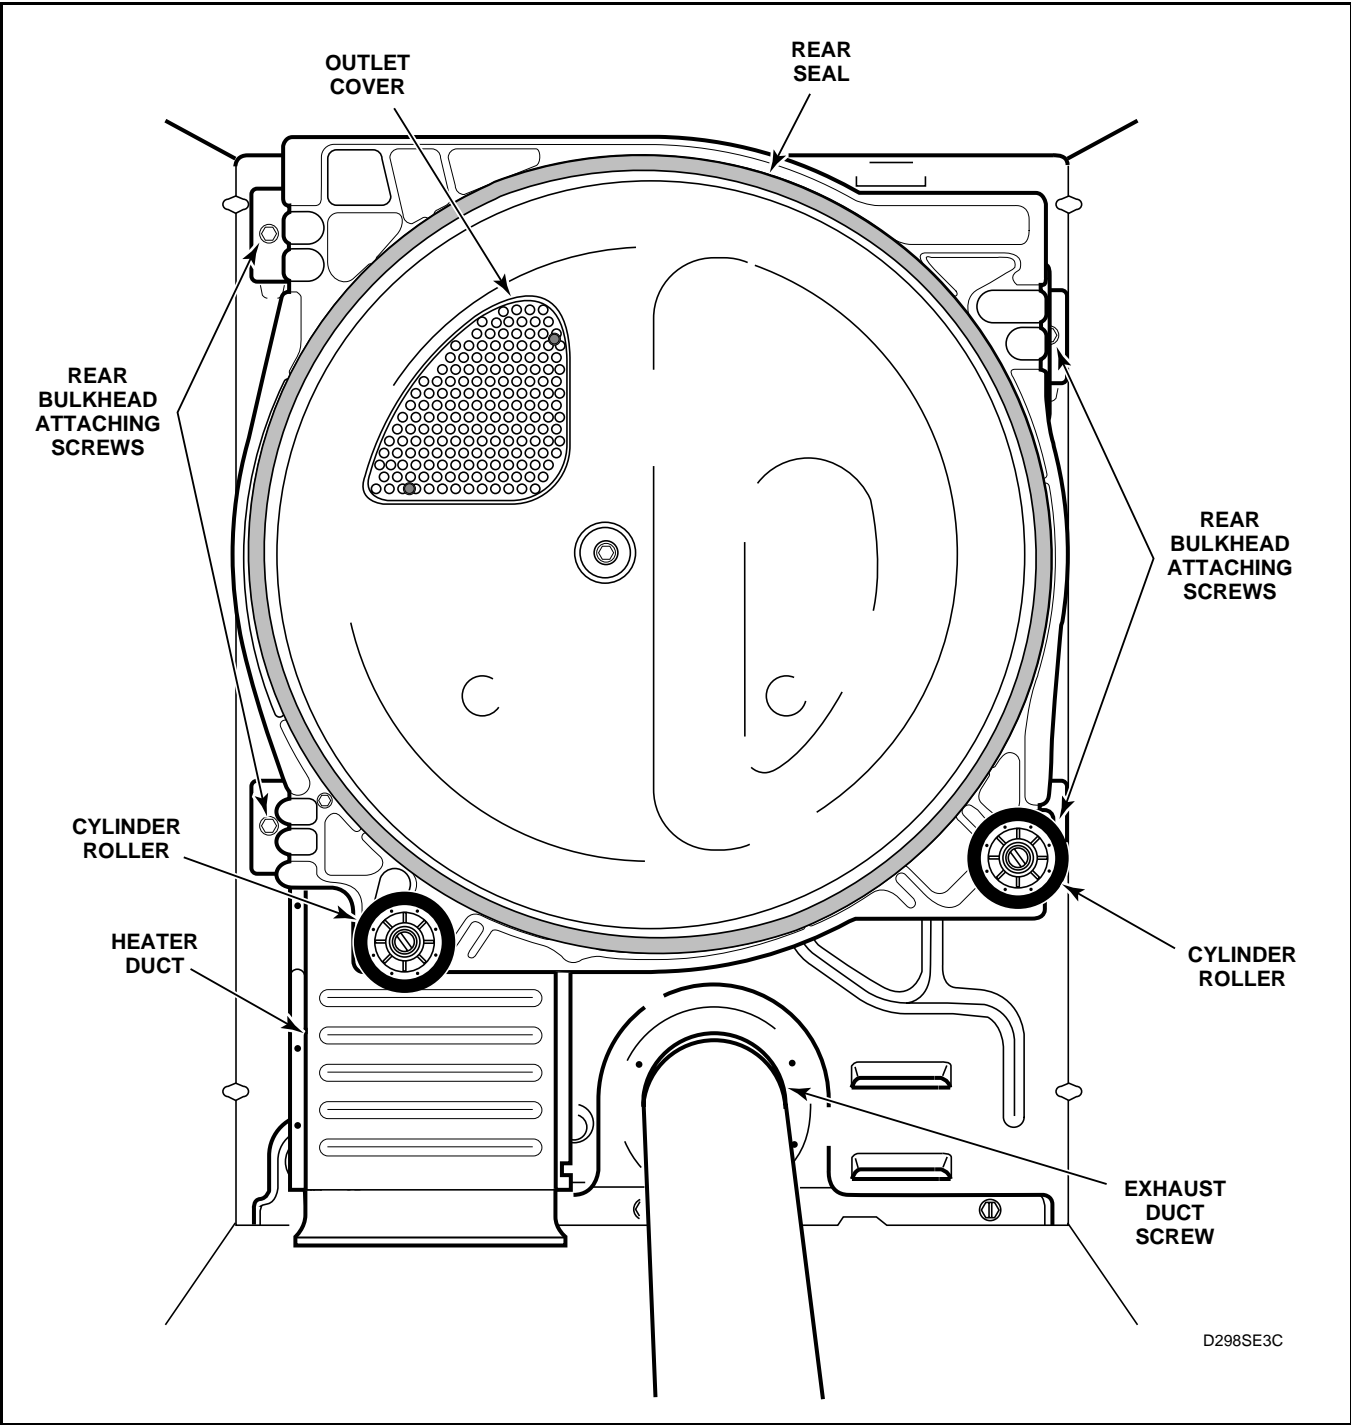

Figure 30
- Open door and remove two screws holding outlet cover to heater duct assembly. See *Figure 30*.
- (4.) While supporting bulkhead, remove the four screws holding rear bulkhead to dryer cabinet, then lift complete assembly out of dryer. See *Figure 30*.